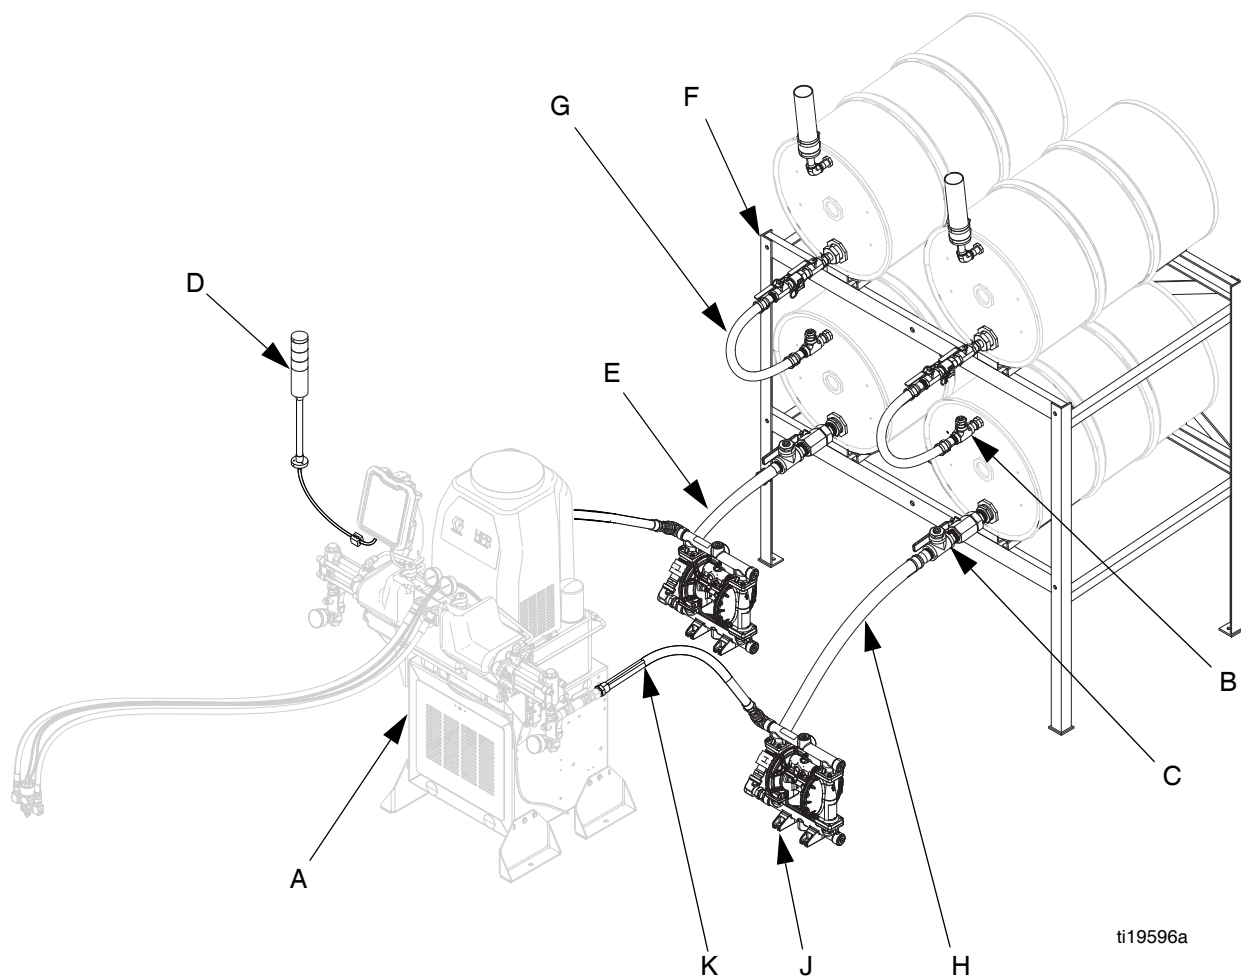

FIG. 1: Component Identification - Feed System
3. Dry fit all hose and fitting components to ensure components are located properly and will reach the HFRL. Refer to FIG. 1, page 4.
NOTE: Drum to pump feed hose length can be reduced if necessary. Refer to FIG. 1, page 4, item H.